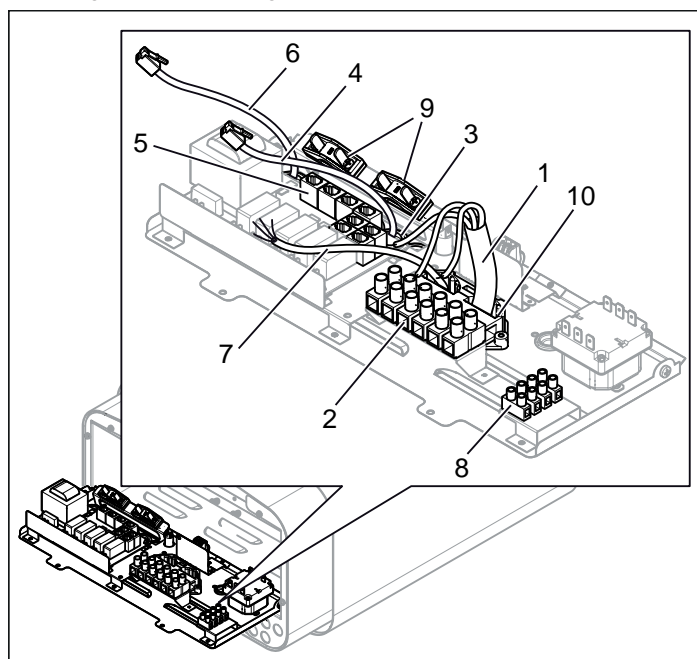
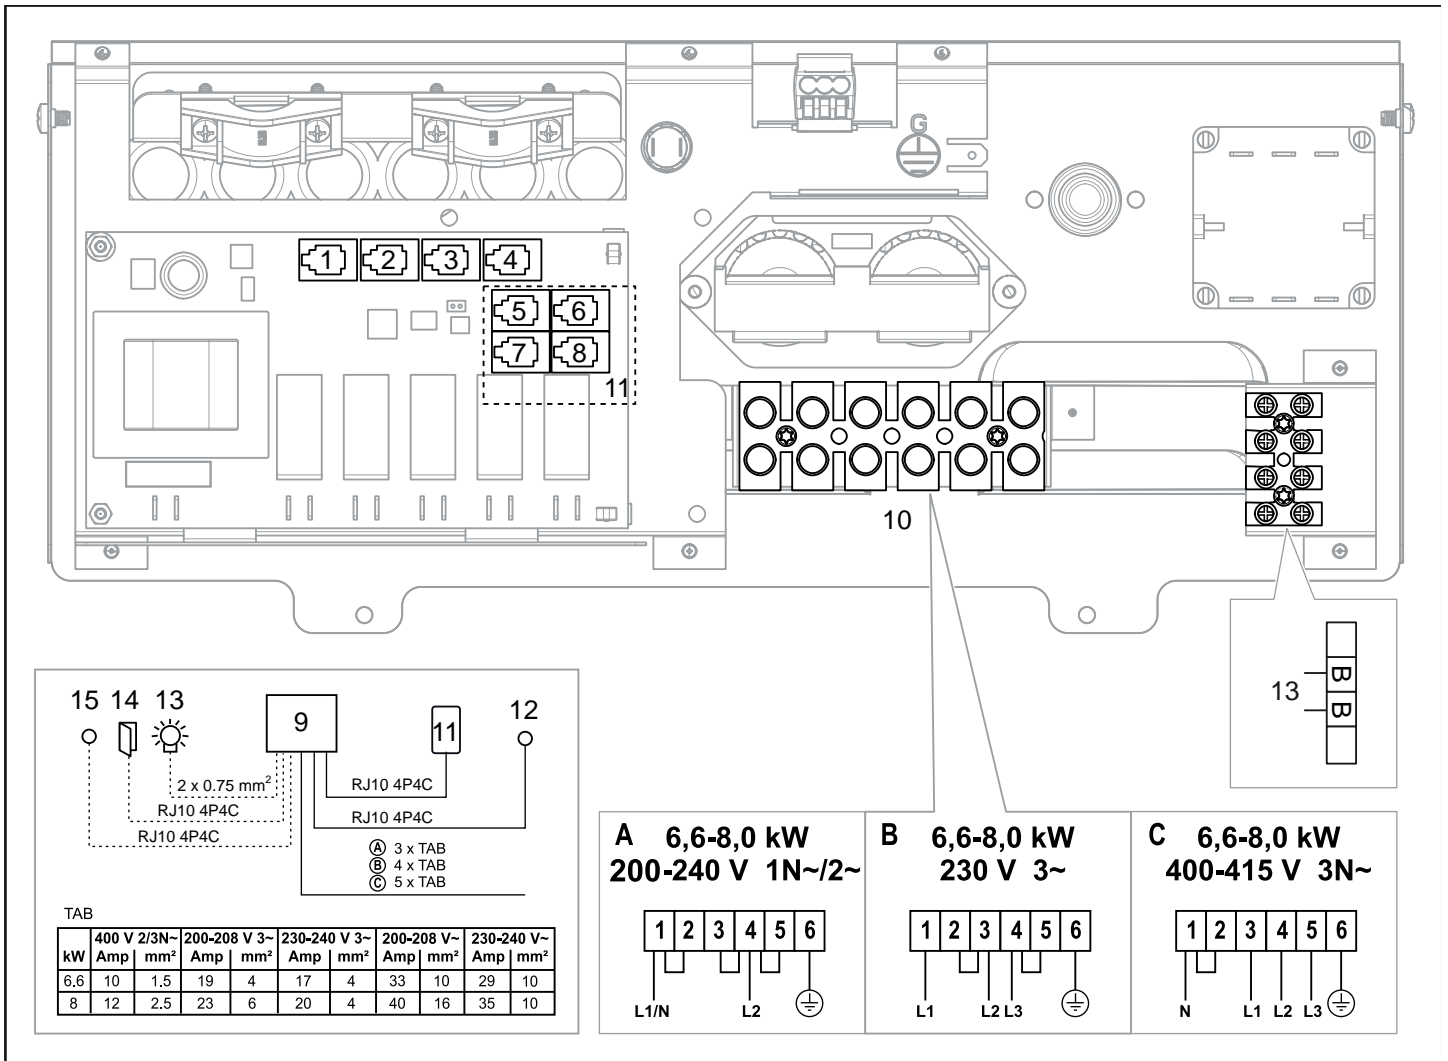

Figure 8: Circuit board
Figure 16: Wiring diagram
3. Connect the electrical cable (1) to the terminal (2) (see Figure 8) according to the wiring diagram (see the Connection/wiring diagram section, page 11).
4. Run the cables for the control panel and the temperature sensor through the cable grommets (3). Connect the control panel cable (4) to one of the four RS485 contacts (positions 5-8) (see Figure 8) according to the wiring diagram (see the Connection/wiring diagram section).
5. Connect the sensor cable (6) to the NTC contact on the circuit board (position 1) (5) (see the Connection/wiring diagram section) according to the wiring diagram (see the Connection/wiring diagram section, page 11).
6. Connect the light cable (if relevant) (7), see Figure 8 page 9, to the terminal (8) according to the wiring diagram Figure 16, page 11.
Contact Tylö Customer Service before connecting to voltages or numbers of phases that are not listed in the wiring diagram Figure 16.